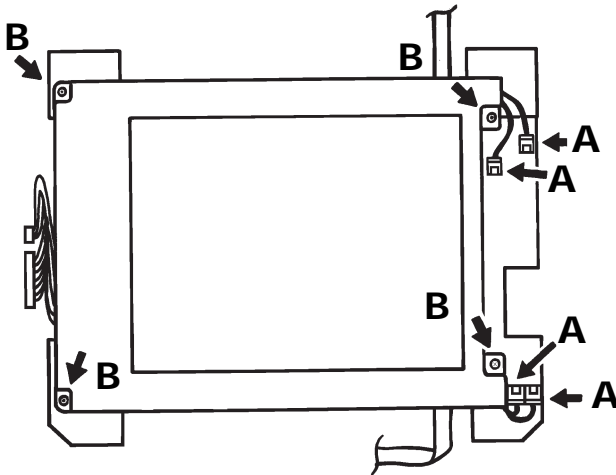

Figure A1.2.3a Display removal (1)
- a Turn the display unit over and orient it as shown in figure A1.2.3a.
- b Disconnect the four wires ('A' in figure A1.2.3a) to the backlighting unit.
- c Undo the four screws ('B' in figure A1.2.3a)